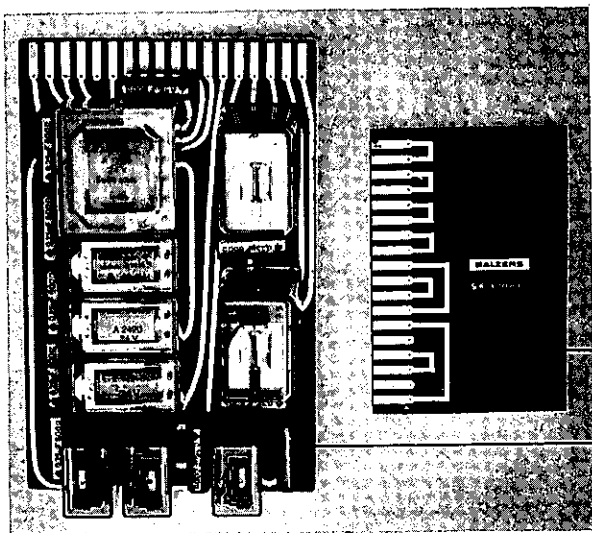

Fig. 8
- 17. Relay plate E 5 COAT-O-MATIC (see Fig. 8, item 2)
The blind plug-in printed circuit (Fig. 8 No. 1) is missing	Plug-in the blind printed circuit board